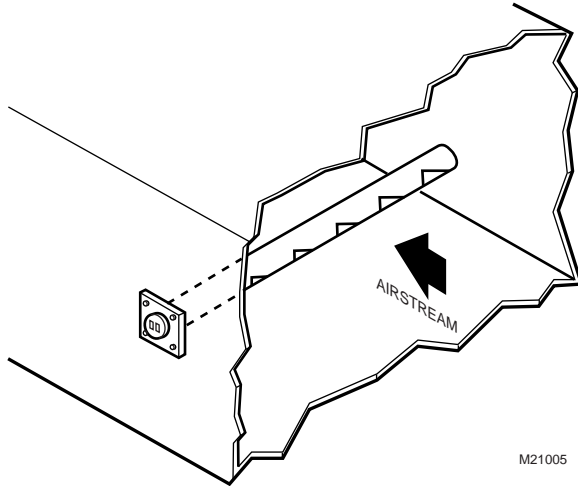

Fig. 2. C7100 duct or plenum mounting.
**Flat Duct or Plenum Surface Mounting (See Fig. 2)**